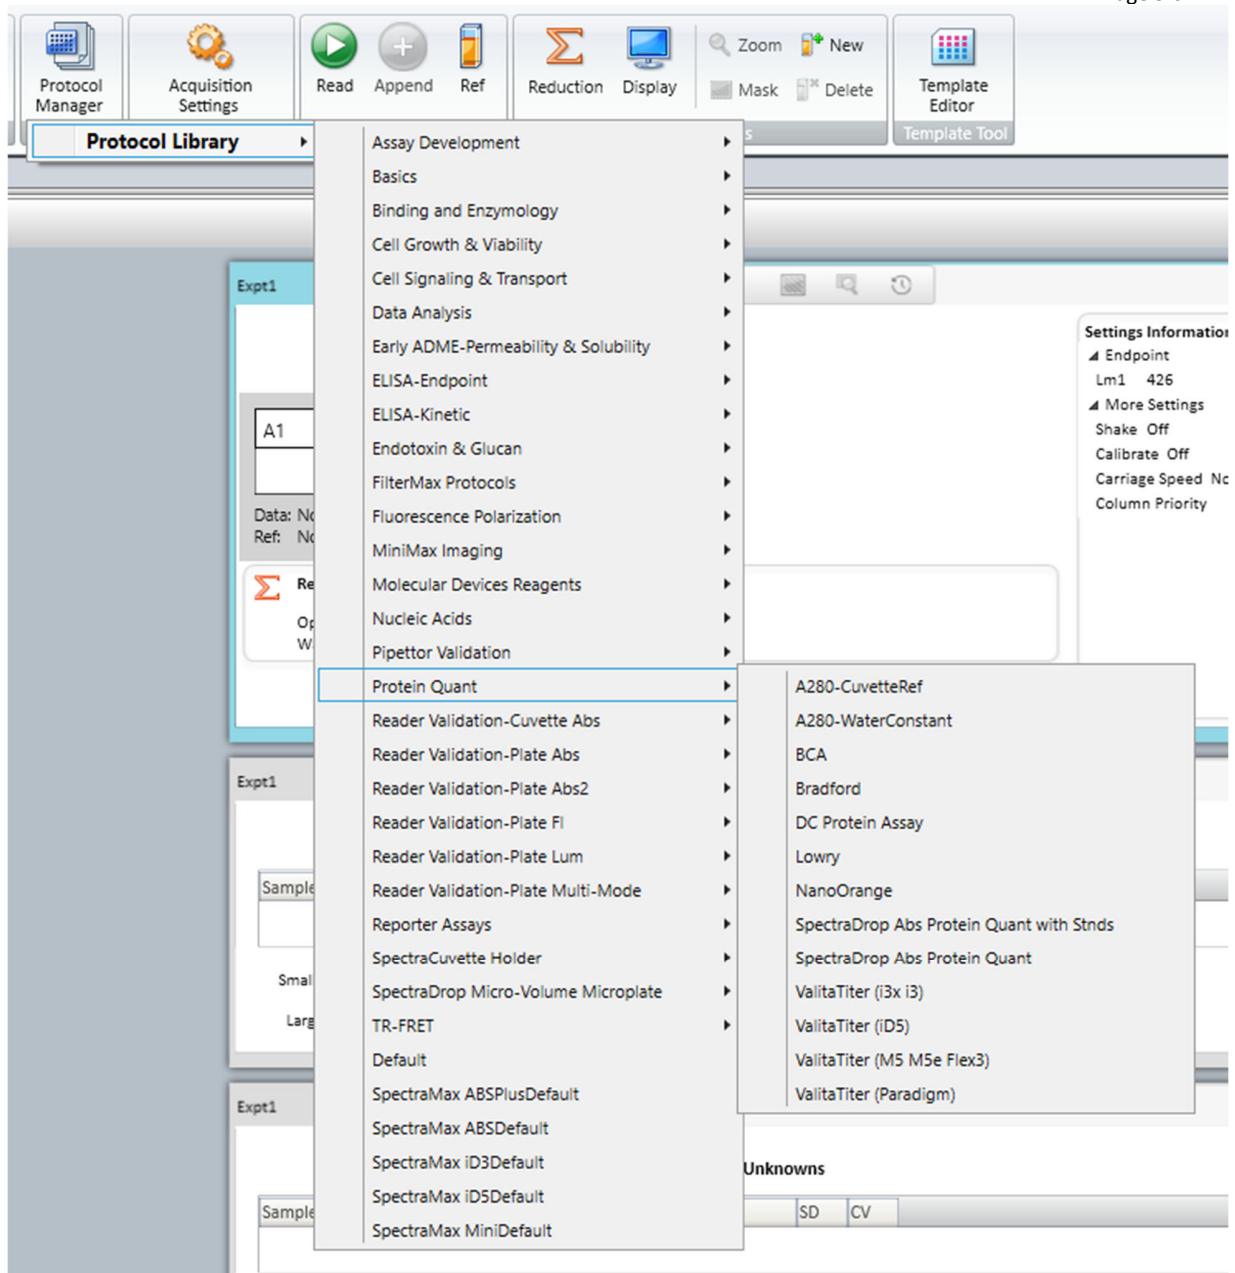

Figure 8: Example of ready to use 96 WP assays in the field of protein quantification
- click on “Protocols” in the main menu and navigate to “Protocol Manager” → “Protocol Library”, select an application field and choose a specific assay (see figure 8)